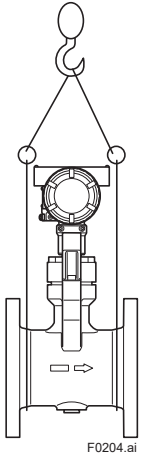

Figure 2.2 Winching Method
- (3) When storing a vortex flowmeter after use, completely clean the flowmeter to ensure that there is no measured fluid remaining in its piping line and on the shedder bar.
- (4) If the vortex flowmeter is carried to the installation site and is stored without being installed, rain water might get inside and impair the instrument's performance. Install, wire and perform other installation work immediately after transporting the vortex flowmeter to the installation site.
- (5) The vortex flowmeter is a heavy instrument. When moving the vortex flowmeter, always use a trolley and have at least two people carry it. When winching instruments, winch by the method shown in Figure 2.2.